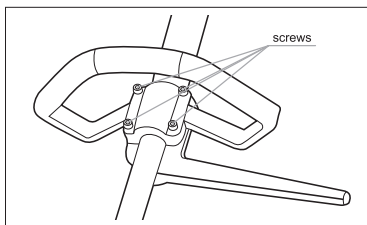

fig. 2
1. Place the device on a flat, hard and clean surface. Unscrew the mounting collar using a wrench. Place the handle over the bar and secure it with the mounting clamp (fig. 2). Tighten the screws.